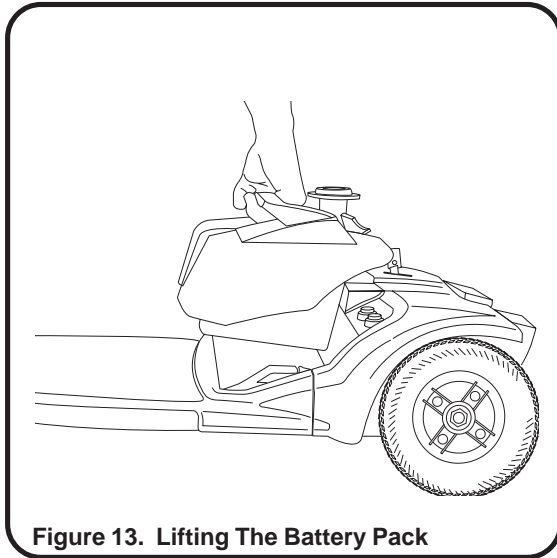

Figure 13. Lifting The Battery Pack
- The battery pack is held in place by a reusable fastener. Use the battery pack handle to pull the battery pack up and away from the scooter. **See figure 13.**